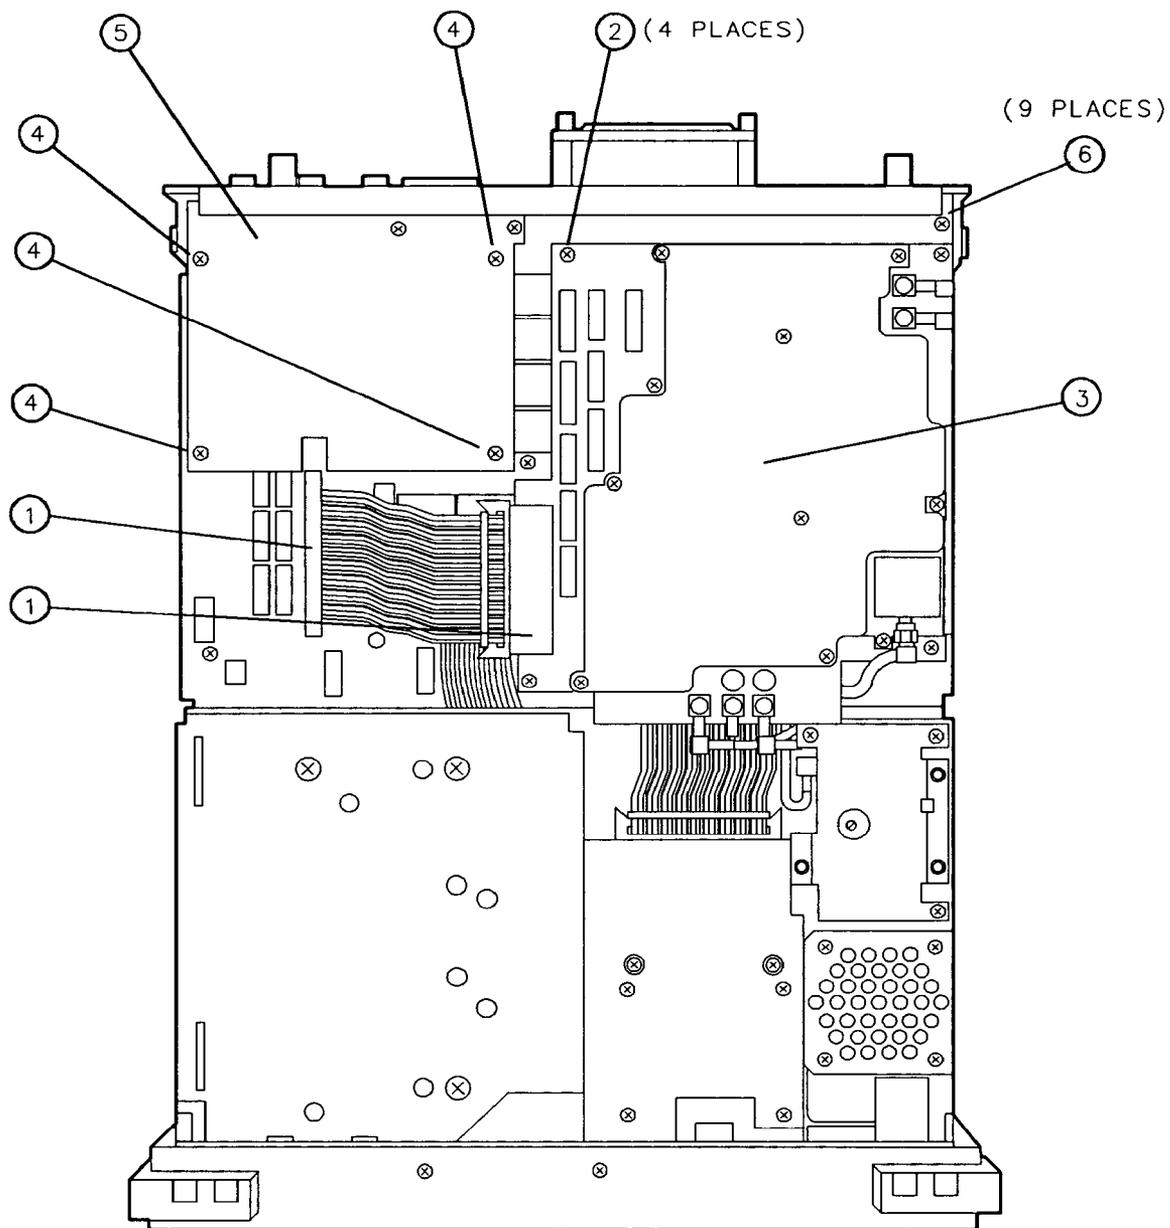
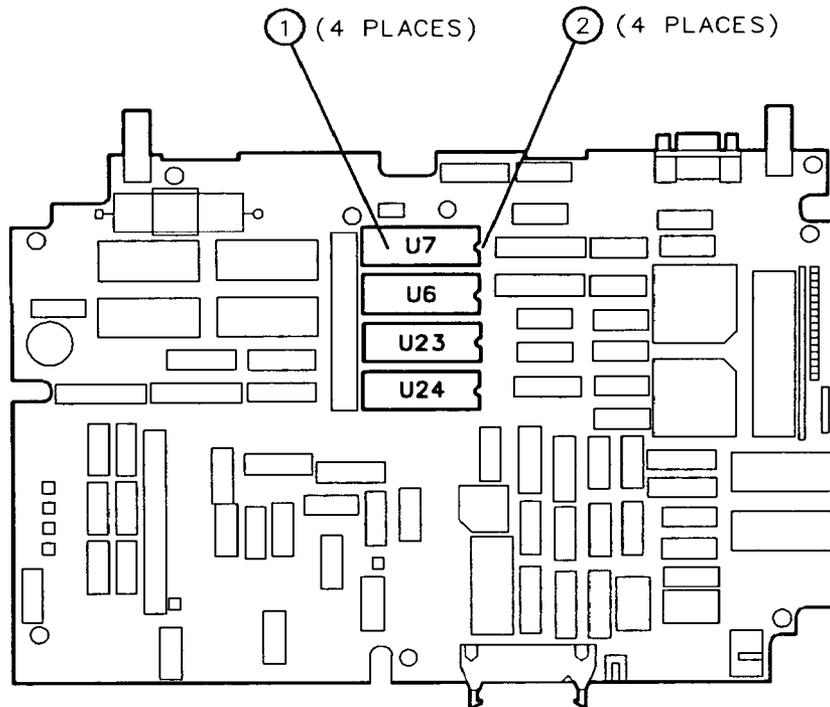

Figure 3-11. A16 Processor/Video Board Replacement
Figure 3-12. A16 Processor/Video Board Firmware ROM Replacement
4. Disconnect the W14 ribbon cable (1) from A16J2 and A25J4. See Figure 3-11.
5. Remove the four screws (2) securing the A25 Counter-Lock assembly.
6. Remove the A25 assembly (3).
2. Replace the nine screws (6) securing the A16 assembly. See Figure 3-11.
2. Disconnect the W14 ribbon cable from A25J4 (1). See Figure 3-11.
3. Remove the four screws (2) securing the A25 Counter-Lock assembly.
4. Remove the A25 assembly (3).
5. Note the location of the four firmware ROMs: A16U6, A16U7, A16U23, and A16U24. Refer to Figure 3-12.
6. Carefully pry the ROMs upwards using a small-blade screwdriver. Pull the ROMs from their sockets evenly so that the IC pins (1) at the rear of each ROM are not bent.
1. Position each ROM on the A16 assembly as illustrated in Figure 3-12.
3. Replace the A25 Counter-Lock assembly (3). See Figure 3-11.
4. Replace the four screws (2) securing the A25 assembly.
5. Connect the W14 ribbon cable to A25J4 (1).